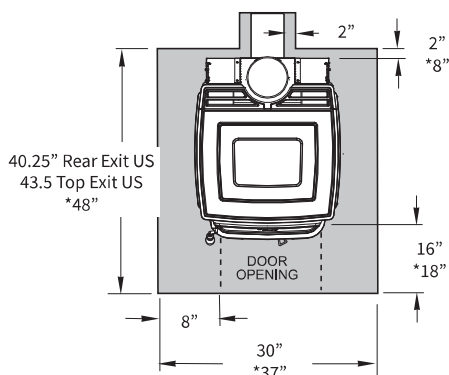

Figure 59. Minimum Hearth Dimensions.
- In a rear vent installation, floor protection must also extend under the stove pipe a minimum of 2" beyond either side. See figure 59.